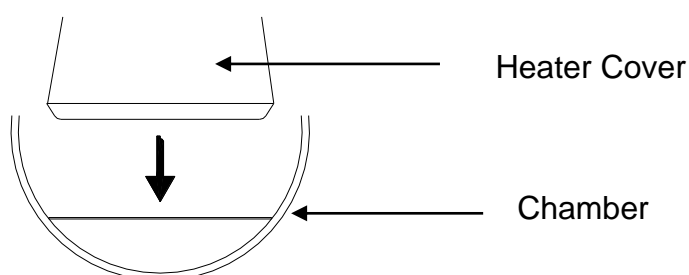

Figure 5
C. Install the heater cover to the chamber as Figure 5 (standard accessory)